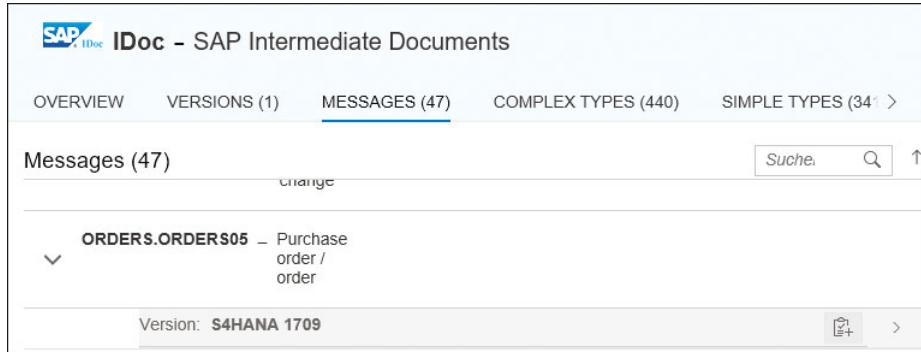

Figure 7.10 Creating a New MIG for ORDERS.ORDERS05
1. To create a MIG based on the ORDERS.ORDERS05 message, open the **MESSAGES** tab in the **SAP IDoc** type system, and expand the message **ORDERS.ORDERS05**. In the line containing the version information select the **Create a New MIG** icon  to create a new MIG for this message (Figure 7.10).